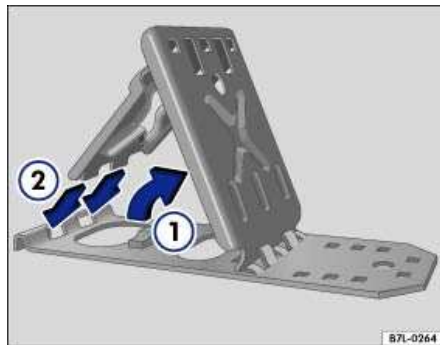

Fig. 25 Folding chock
Loosen both hook-and-loop fasteners and remove the two folding chocks. To use the chocks, you first have to raise the support plate (⇒ Fig. 25 (1)), then insert the locking plate with the two tabs into the elongated holes in the base plate (2) ⇒ .